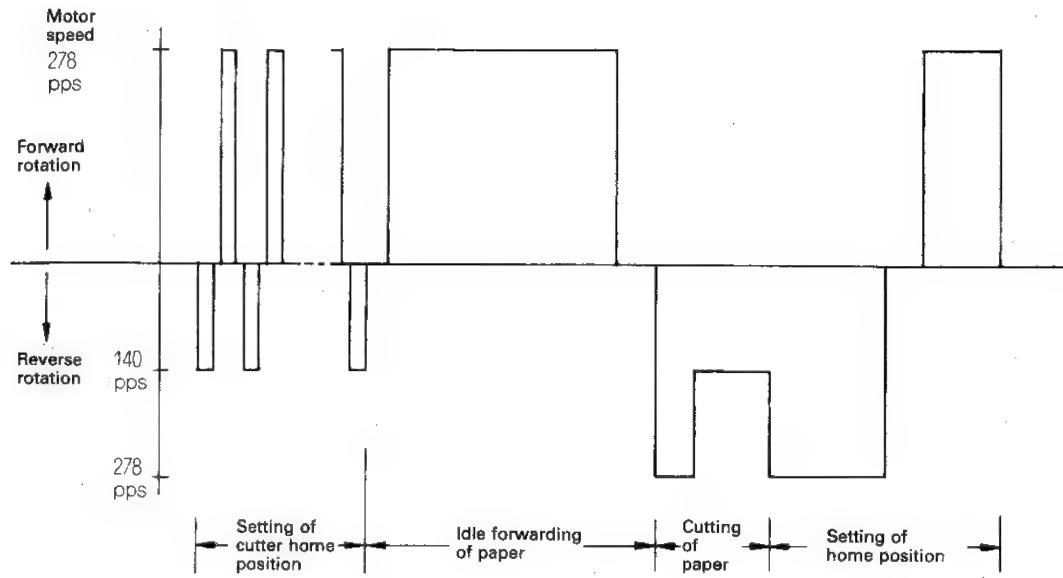

Figure 3-5 Checking of Cutter Home Position and Printer Paper Positioning
1) When the cutter cam is not in its home position after the initial white sheet setting, checking of cutter home position and positioning of printer paper will be done according to the time chart shown in Figure 3-5.
2) When the copy operation keys (1-picture copy, 2 frames consecutive copy, 4 frames simultaneous copy, Additional copy) are pressed after the remedy of an E2 indication, the relative key operation is started after the positioning of the printer paper according to the time chart of Figure 3-5.